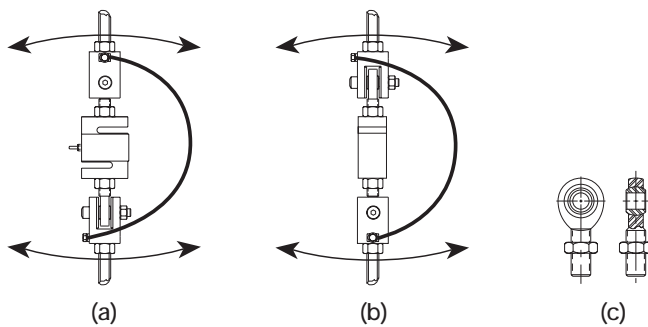

Figure 2-38
Figure 2-38 illustrates the use of the ITCM weigh module. This mounting arrangement prevents most of the potential problems caused by extraneous forces acting on S-beam load cells.
- 1) The ITCM consists of a high-precision rod end ball joint which is screwed into each end of the S-beam. The rod end ball joint has a “ball” which is free to rotate in a TFE bearing; see Figure 2-38 (c). A clevis is attached to the rod end ball joint using a shoulder screw.